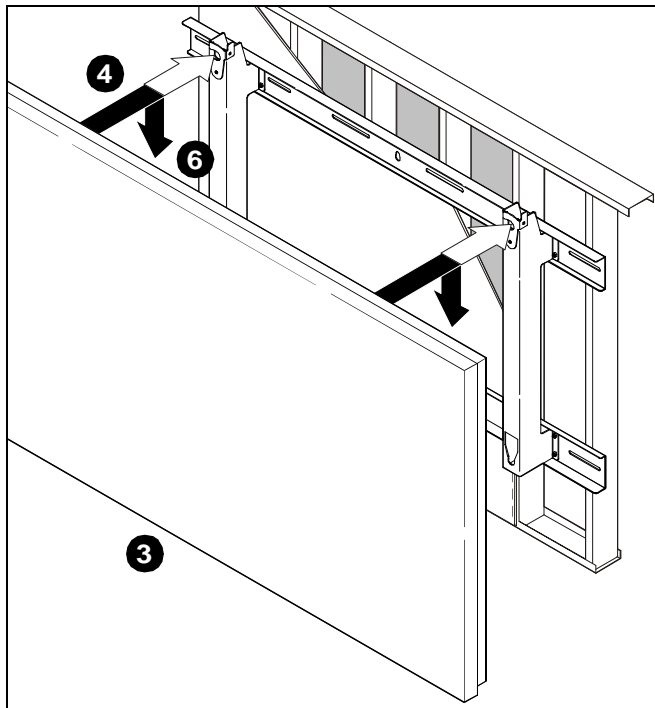

Figure 6
- Align mounting buttons on display with teardrop mounting holes in mount. (See Figure 6)
- Move display forward until recessed area of mounting buttons is positioned over lower area of teardrop mounting holes. (See Figure 6)
- Lower display until recess area of mounting buttons is seated in lower area of teardrop mounting holes. (See Figure 6)